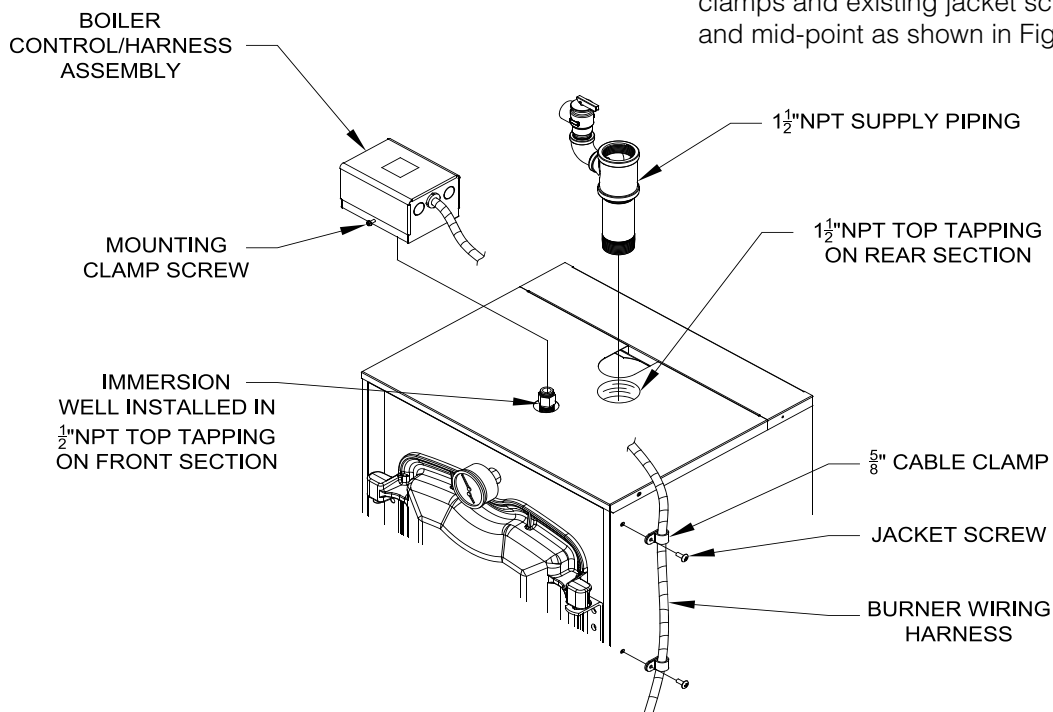

Figure 3-5: Supply Piping and Aquastat Control Assembly Details
Open miscellaneous parts carton and remove contents. Identify the components using the illustrations (see Figure 3-5) throughout the assembly sequence outlined below as it applies to your installation.
- Locate the Boiler Control/Harness Assembly in the Miscellaneous Parts Carton. Loosen mounting clamp screw on front of Control. Mount Control on factory installed immersion well located in top tapping near front of boiler with burner harness on the right hand side; see Figure 3-5.
- Locate (2) 5/8 in. cable clamps in parts carton. Secure burner wiring harness to front of jacket right side panel with cable clamps and existing jacket screws at top and mid-point as shown in Figure 3-5.